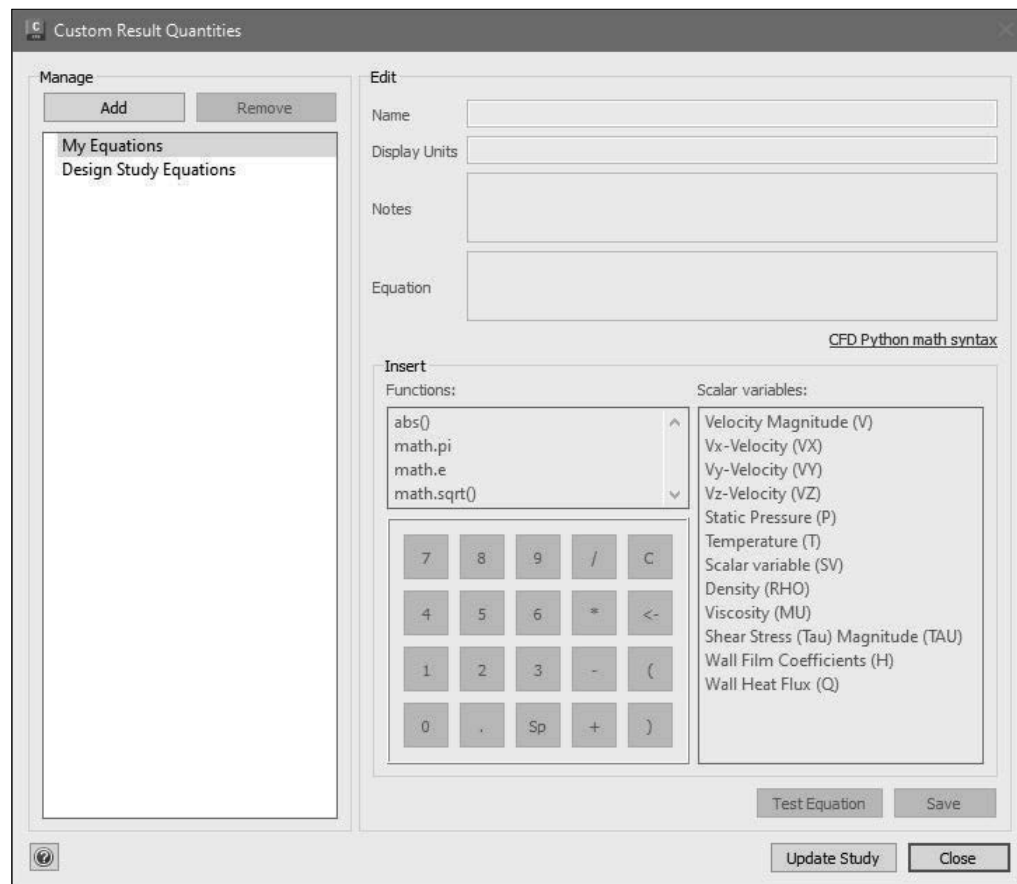

Figure-99. Custom Result Quantities dialog box
- Click on the **Custom Result Quantities** button from the **Global** panel of **Results** tab in the **Ribbon**. The **Custom Result Quantities** dialog box will be displayed; refer to Figure-99.